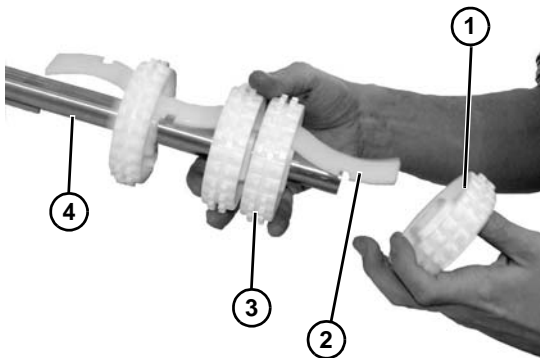

Figure 42
10. Slide entire sprocket assembly slightly outward, and remove the first sprocket (Figure 42, item 1) off the drive spindle and alignment bar (Figure 42, item 2).
11. Remove remaining sprockets (Figure 42, item 3) off the alignment bar as you slide entire assembly off the drive spindle (Figure 42, item 4).